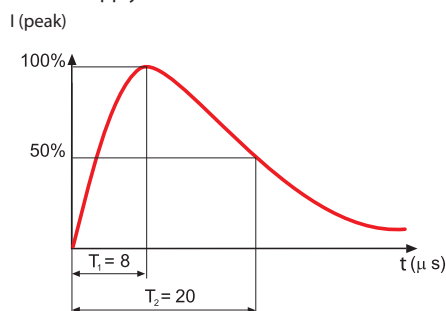

Figure 6: 8/20 μs current waveform
**Uoc:** test voltage. This is the peak value of the no load voltage of the combined test-generator; this has a waveform of 1.2/50 μs (figure 7) and can supply at the same time current with waveform 8/20 μs (figure 6).